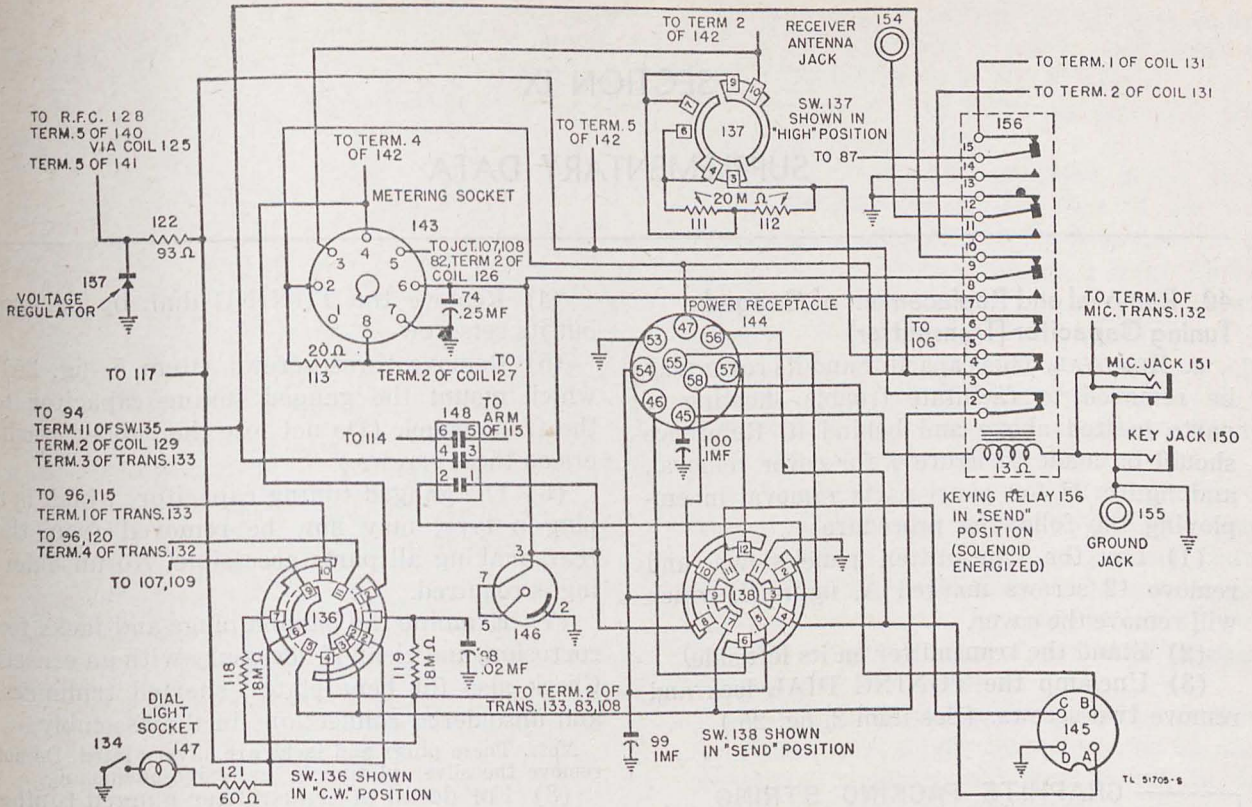

Figure 51. Power and switching connections schematic for transmitter of Radio Receiver and Transmitter BC-1306.
(c) Connections to other circuit components with this switch in the CW position are shown on figure 51.
(e) Connections to other circuit components with switch 137 at HIGH are shown in figures 51 and 57.
(e) Connection to other circuit components with switch 138 set at SEND are shown in figure 51.
(8) *Power and switching connections.* (a) Power and switching connections are shown in figure 51.
Table XXVIII. Parts data, power and switching schematic, transmitter (fig. 51.)